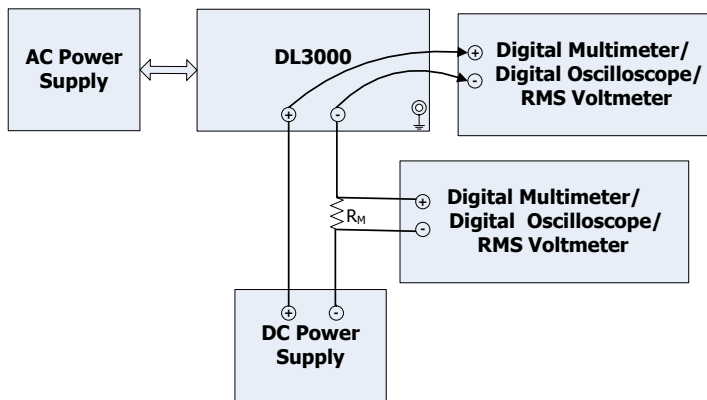

Figure 2-3 CR Test Connection
"**Recommended Test Devices**" according to the connection method in Figure 2-3. During the test process, please set the AC voltage according to the selected voltage in "AC Selector" on the rear panel of the electronic load.
1. Power off DL3031A. Connect DL3031A, AC power supply, DC power supply, a current sampling resistor (with a resistance R_M 0.01 Ω), and a digital multimeter according to Figure 2-3 (Pay attention to the connection method for the current sampling resistor, the channel input terminals of DL3031A, and the digital multimeter). Connect the USB DEVICE interface on the rear panel of the electronic load to the PC via the USB cable.